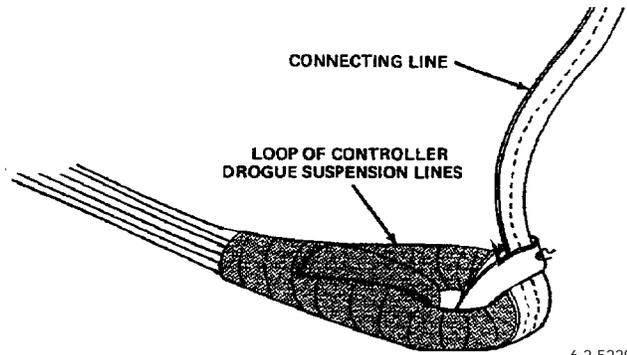

Figure 6. Replacement of Controller Drogue
e. Pass one looped end of replacement connecting line thru base loop of controller drogue (Figure 6). Route opposite end of line thru loop and pull tight. Tack loop with one turn of size 6 thread, doubled and waxed; tie off.
g. Pass one looped end of connecting line thru base loop of replacement controller drogue (Figure 6). Route opposite end of line thru loop and pull tight. Tack loop with one turn of size 6 thread, double and waxed; tie off. (QA)